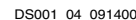

**Figure 6: Spartan-IIe CLB Slice** (two identical slices in each CLB)
The basic building block of the Spartan-II®E FPGA CLB is the logic cell (LC). An LC includes a 4-input function generator, carry logic, and storage element. The output from the function generator in each LC drives the CLB output or the D input of the flip-flop. Each Spartan-II®E FPGA CLB contains four LCs, organized in two similar slices; a single slice is shown in Figure 6.